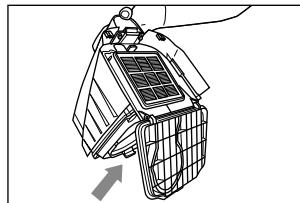

Fig. 7
- Open the door through the opposite lever (Fig. 7).
- Empty the dust container (D).